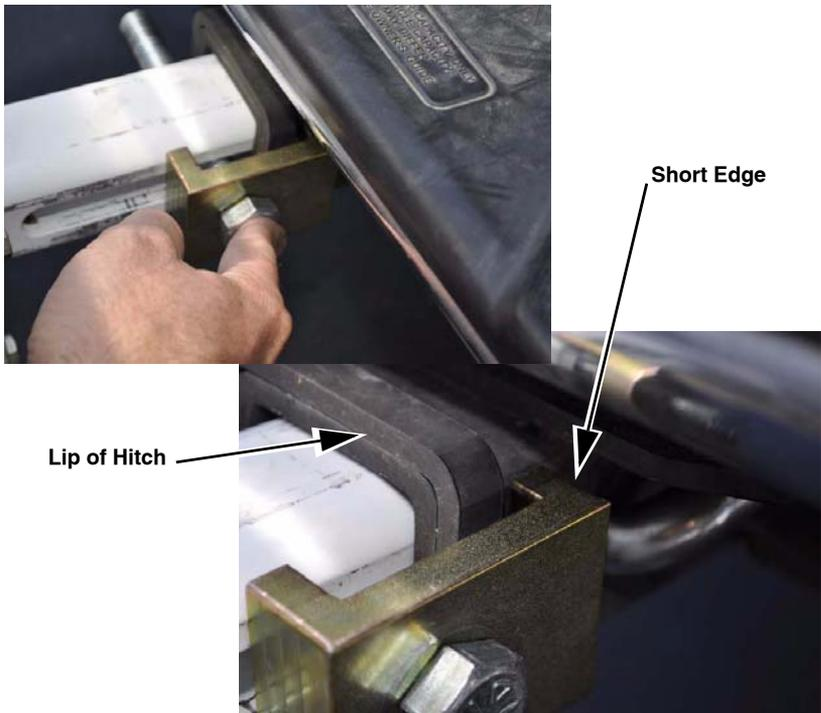

Figure 2-12. Hitch Mount Bracket Bolt
4. Align the right side hitch mount bracket so that the shorter edge rests above the lip of the hitch (Figure 2-12), and insert the hitch mount bracket bolt.